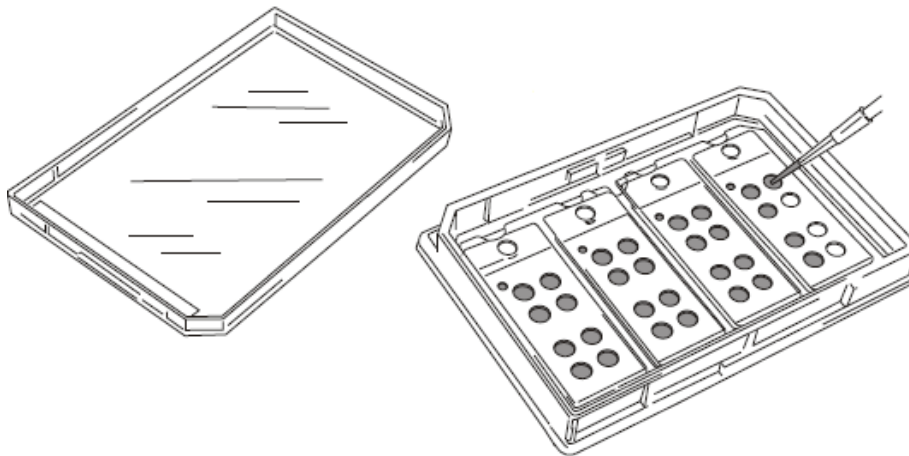

Figure 2
2. To culture cells in MultiWell chambers, pipette cells into individual wells as shown in Figure 2. Allow the cells to attach for 1-24 hours in a humidified CO₂ incubator. Wells are spaced 9mm for use with multi-channel or automated pipettors.